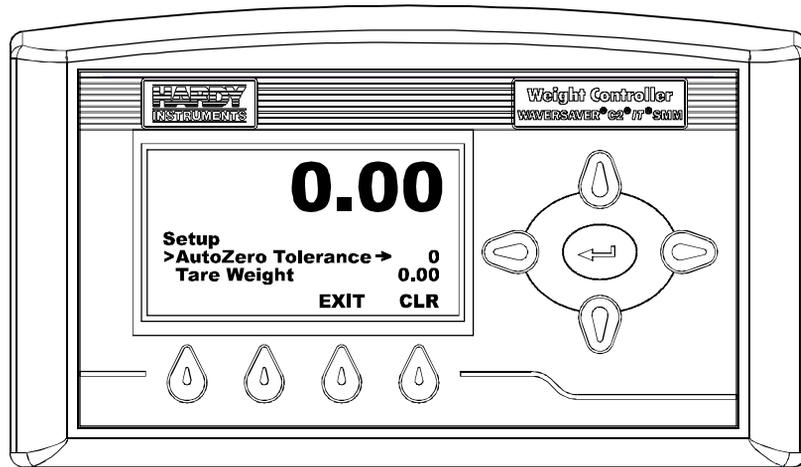

FIG. 80 SETUP MENU/SELECTING AUTOZERO TOLERANCE
- Step 1. Press the Down Arrow button until the cursor is in front of AutoZero Tolerance. (See Fig. 80) The present AutoZero Tolerance is displayed.